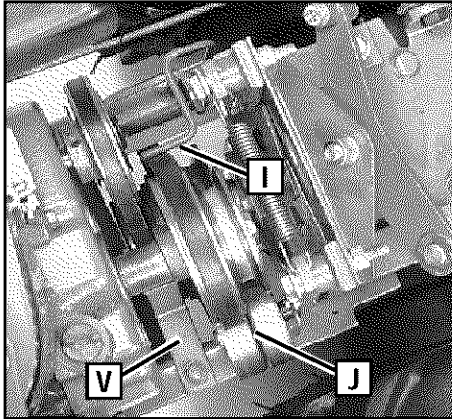
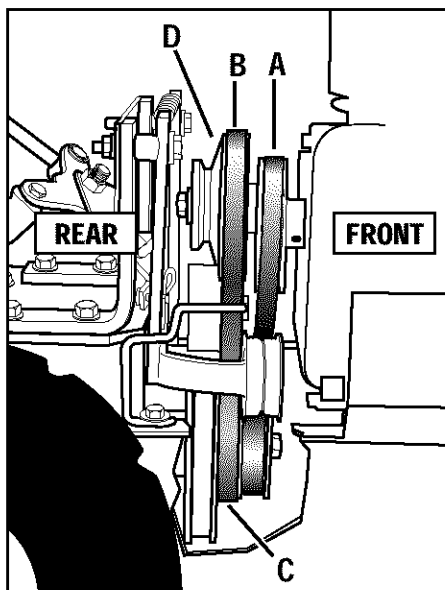

Figure 5-12: Top view of belts and pulleys.
Figure 5-16: Belt drive system.
8. Replace the forward drive belt in the High speed groove (groove closest to engine) or the Low speed groove (rear-most) groove of the engine drive pulley and in the matching groove of the transmission pulley. Be sure the belt is to the inside of the wire formed belt guide (I, Figure 5-12) and to the inside of the forward drive idler pulley (J).
This model has two forward speeds (High and Low) and one reverse speed. The forward engine pulley (D, Figure 5-16) has two grooves for the two forward speeds. The reverse engine pulley (A, Figure 5-16) has one groove for the one reverse speed. The transmission pulley (C, Figure 5-16) has three grooves. The groove closest to the engine is for the reverse belt. The middle groove is for the High speed forward belt range; the rearmost groove is for the Low speed forward belt range.
2. Remove the reverse drive belt (A, Figure 5-16) by following the *Removing the Reverse Drive Belt* instructions in this section.
3. Move the forward drive belt (B, Figure 5-16) completely off the engine forward drive pulley (D).
4. Slip the forward drive belt completely off the transmission drive pulley (C, Figure 5-16) by moving it to the front of the pulley.
2. Slip the forward drive belt down between the rear of the engine forward drive pulley (D, Figure 5-16) and feed the bottom half in between the engine and transmission pulleys (see Figure 5-17). Be sure that the belt is to the inside of the forward idler pulley and forward belt guide (see J and I, Figure 5-12).
3. Slip the forward drive belt down and over the front of the transmission pulley (C, Figure 5-16). NOTE: For additional working room, loosen the reverse belt guide (V, Figure 5-12) and twist it out of the way.
4. Put the lower half of the belt into the High speed groove (middle groove) or the Low speed groove (rearmost groove) of the transmission pulley (C, Figure 5-16).
5. Put the upper half of the belt in the High speed groove (groove closest to engine) or the Low speed groove (rearmost groove) of the engine forward drive pulley (D, Figure 5-16).
IMPORTANT: Make sure that the forward drive belt is to the inside of the wire belt guide (I, Figure 5-12) and the forward idler pulley (J).
3. Place the belt to the inside of the reverse idler pulley (D, Figure 5-18) and the reverse belt guide (V, Figure 5-12). Then slip the upper end into the groove of the engine reverse pulley (A, Figure 5-18).
4. If the reverse belt guide (V, Figure 5-12) was loosened previously, center the belt guide on the belt and tighten the mounting screw securely.